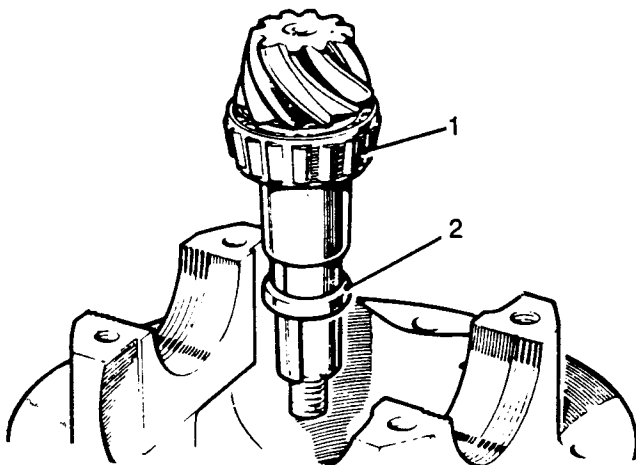

Fig J2.52
- (4) Refer to Fig J2.52. Press the pinion head roller bearing (1) onto the pinion.
- (5) Locate the pinion shaft into the case together with the bearing pre-load adjustment shim (2) removed during dismantling.